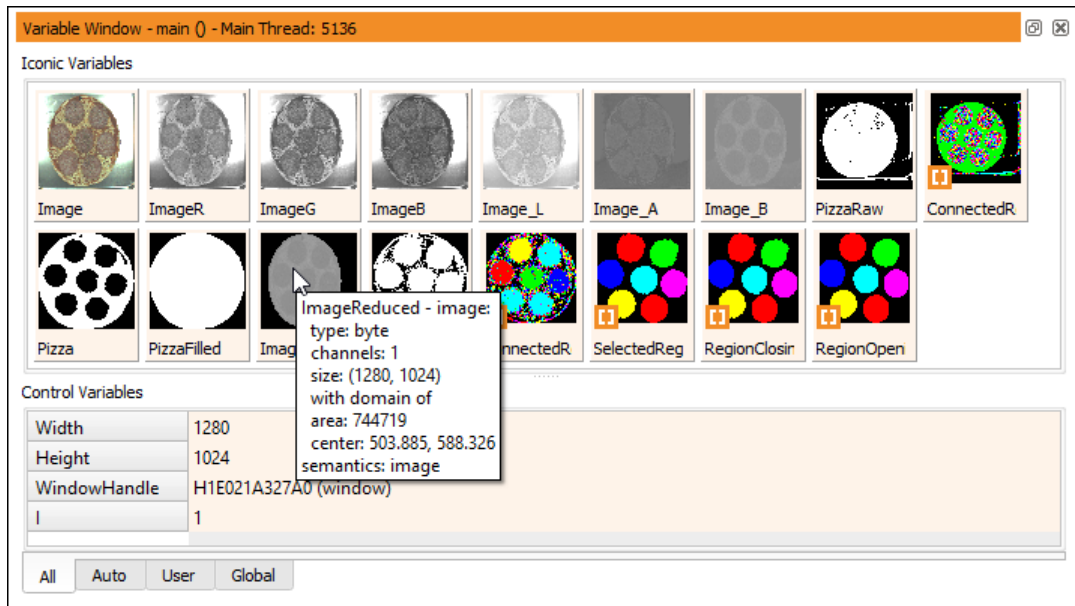

Figure 6.82: Displaying information about an iconic variable with a reduced domain.
- The domain of the image is not reflected in the displayed icon. Information about the domain can be obtained from the tool tip which appears when the mouse cursor points to the icon. See figure 6.82 for an illustration.
You can get information about an instantiated variable by placing the mouse pointer over the corresponding icon in the variable window. See also figure 6.82 for an illustration. The information depends on the contents of the corresponding variable: